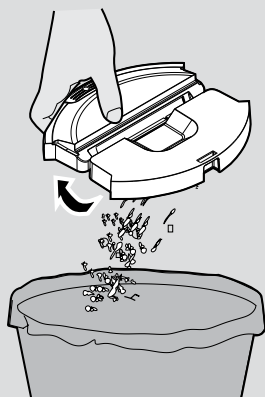
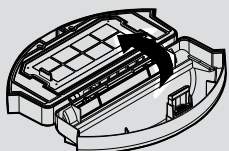

Fig. 8
Fig. 9
2. Empty the dust container over a dust bin. [Fig. 8]
2. Empty dust container. [Fig. 8] Open the dust container, remove the filter mesh with filter together, then remove EPA filter from filter mesh and clean them separately. The assembly is done in reverse order, make sure the filter is assembled correctly. [Fig. 9,10]